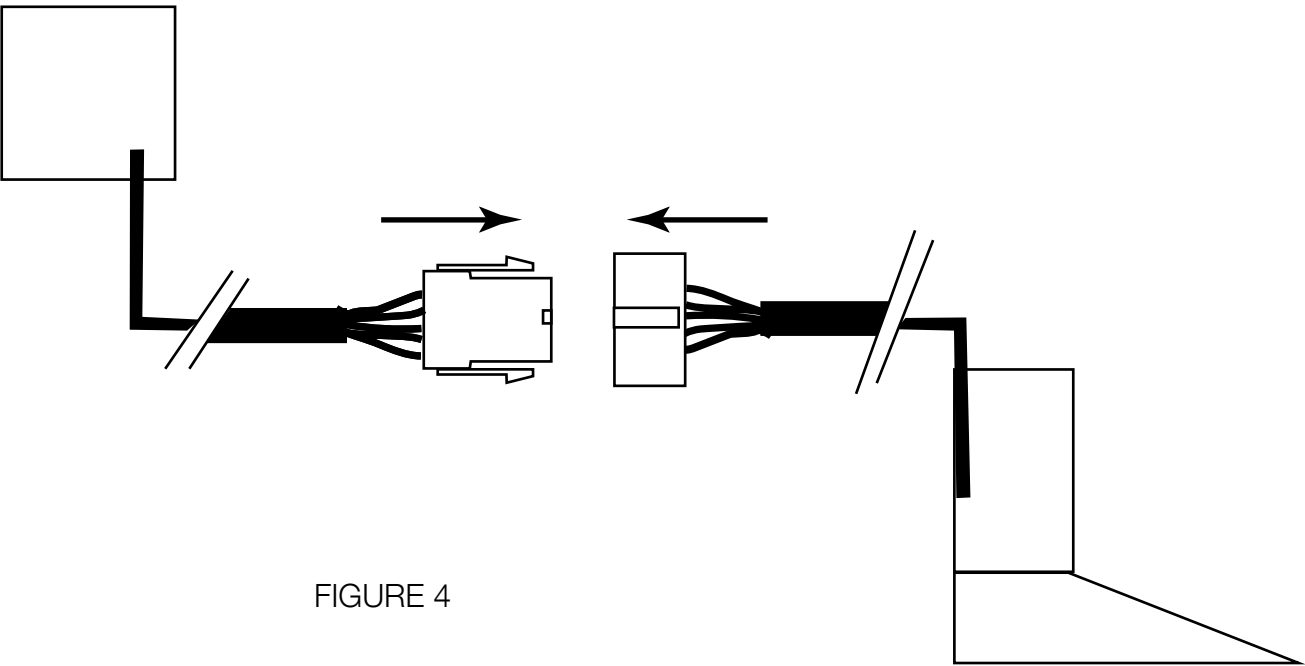

FIGURE 4
6. Feed the power cable from the motor unit down the chimney and plug it into the rangehood. FIGURE 4.